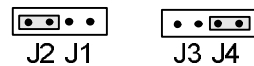

Fig. 4 Input/output module jumper position J2, J4
- The jumper on the input/output module must be plugged onto J2/J4 (Fig. 4).